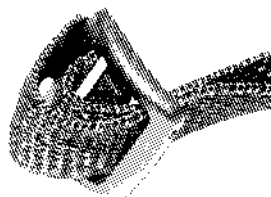

Fig. 6
6. Next, thread the strap through the male end of the quick release buckle in Fig. 5. When this is done the arm rest should look like Fig. 6.